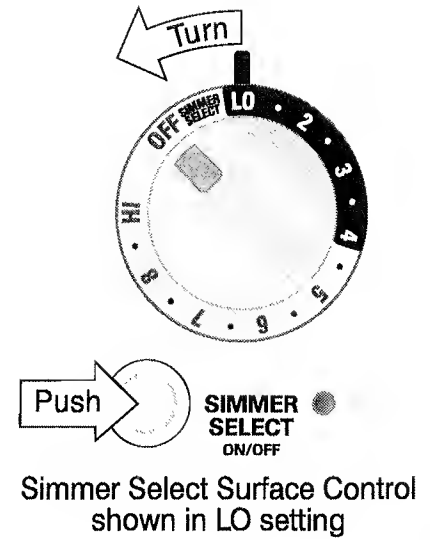

Fig. 1
2. Push in the Simmer button located below the left front control knob. The Simmer Select indicator light will glow and remain ON while simmering (See Fig. 1).
The size and type of cookware used will influence the setting needed for best cooking results. Cookware should have flat bottoms that make good contact with the entire surface heating element (See Fig. 1). Check for flatness by rotating a ruler across the bottom of the cookware (See Fig. 2).